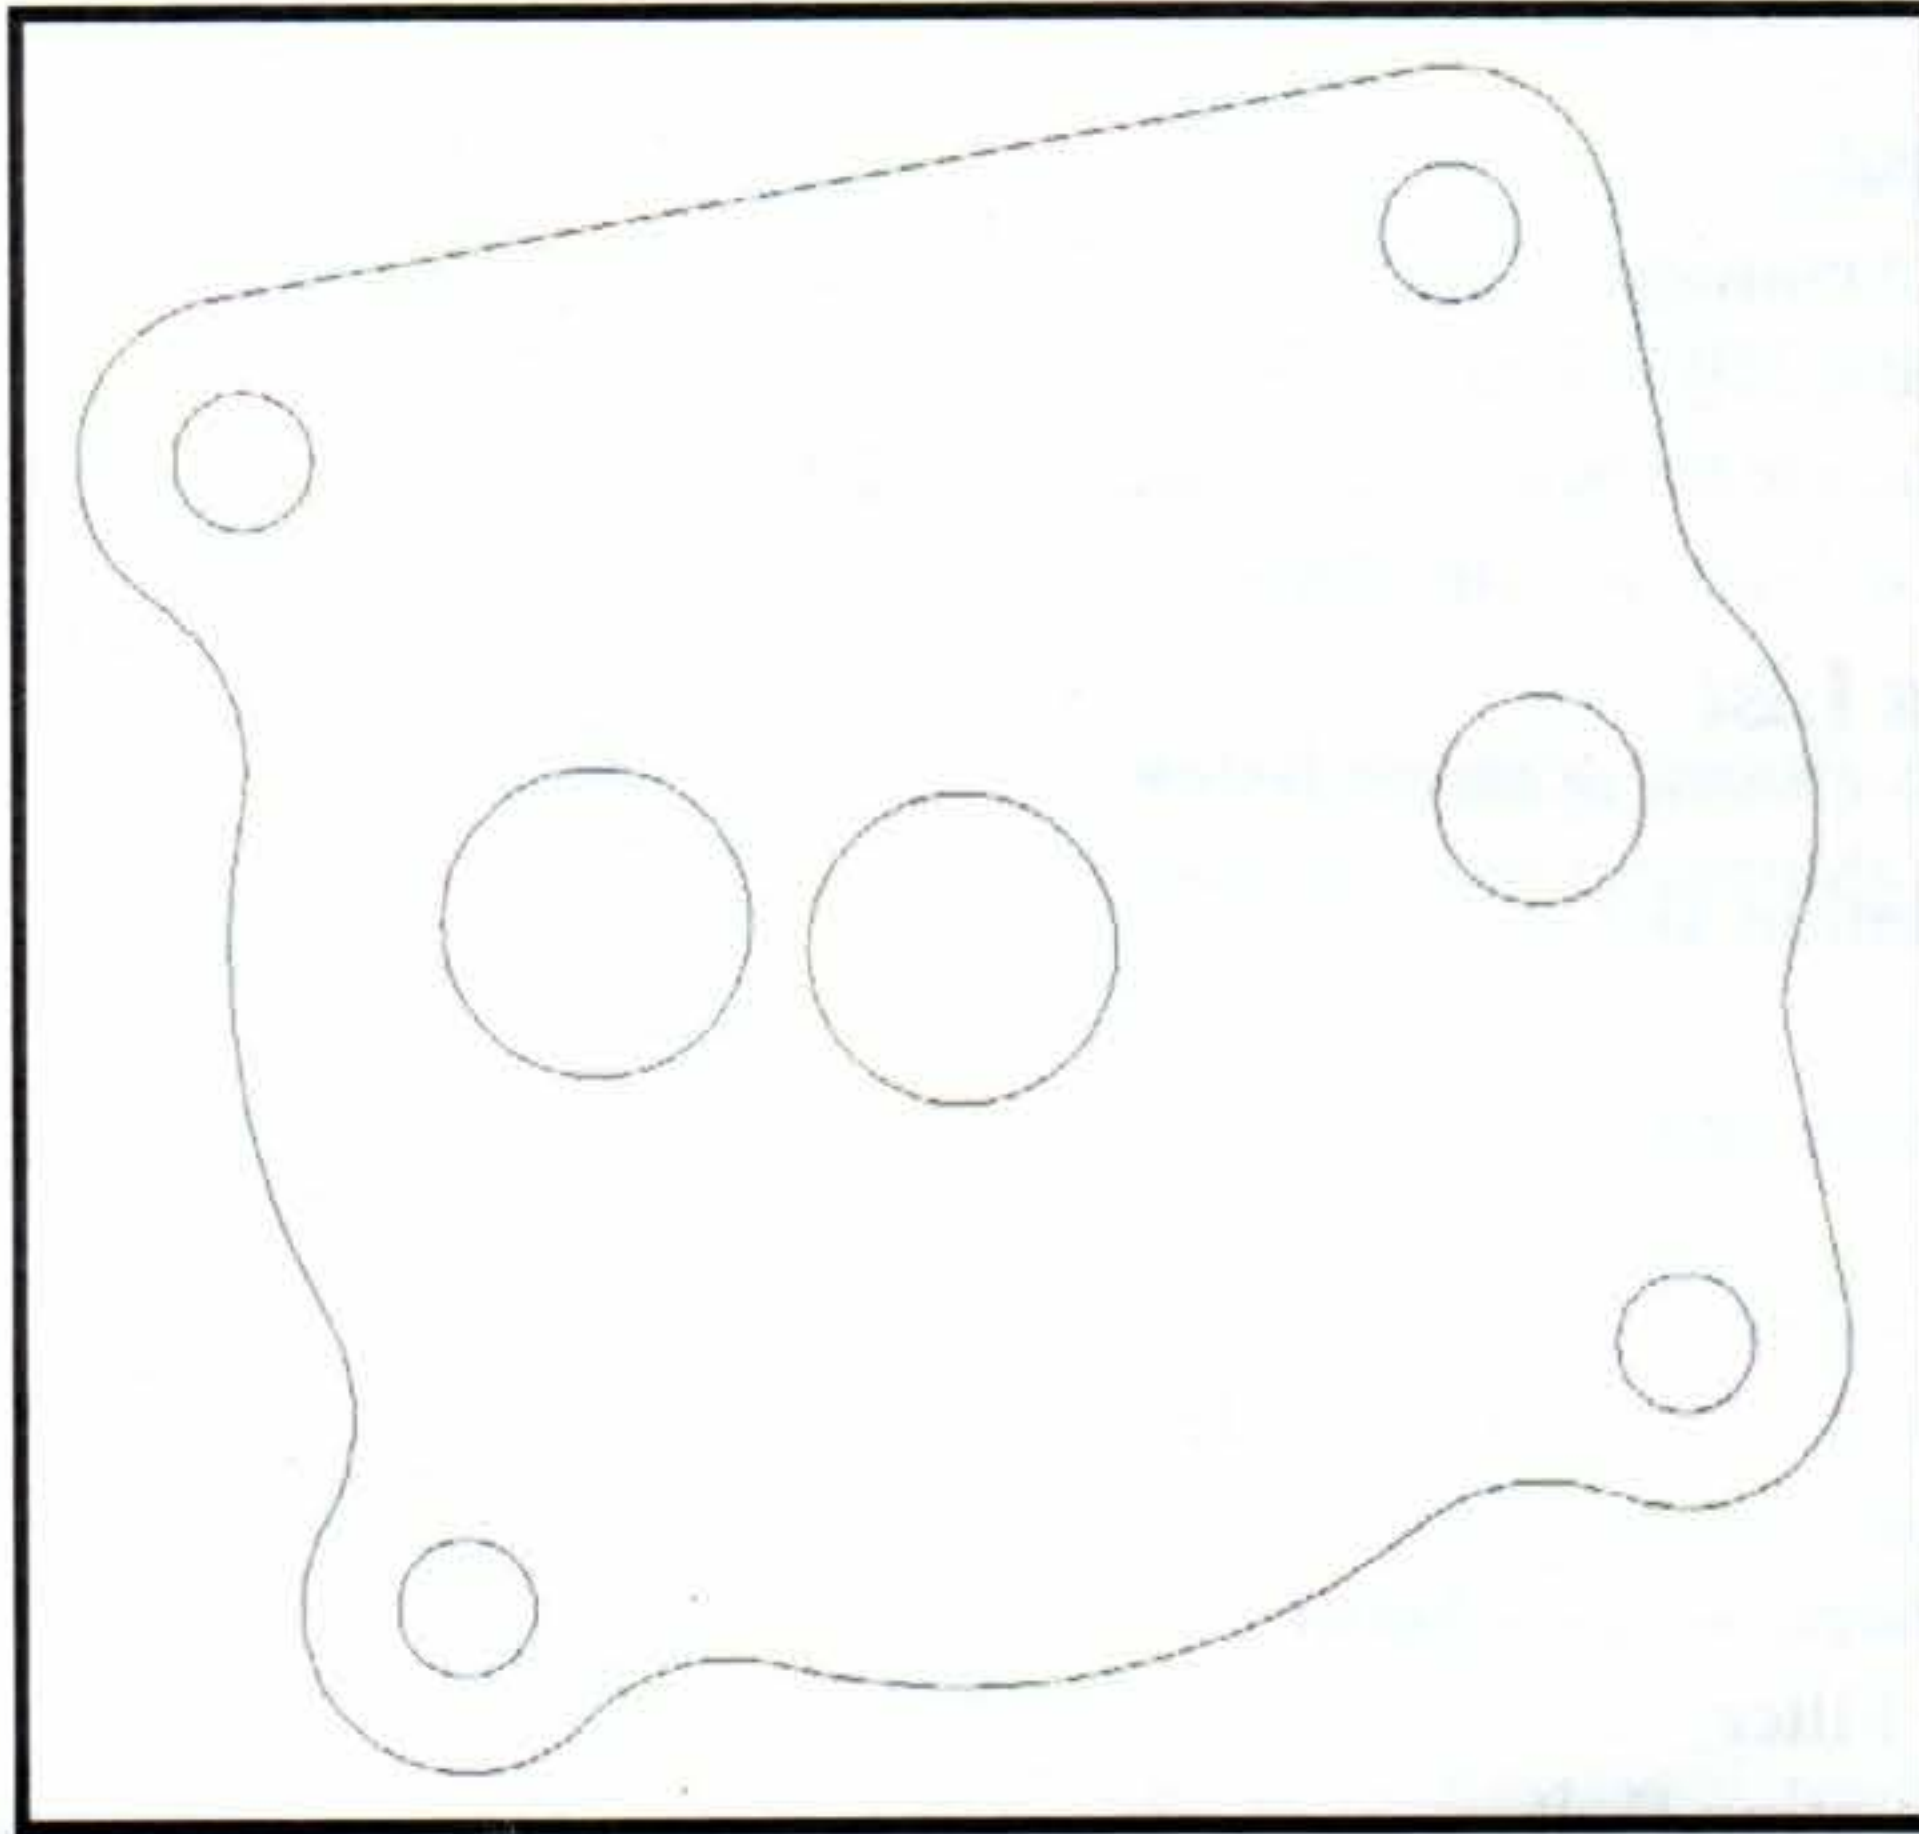
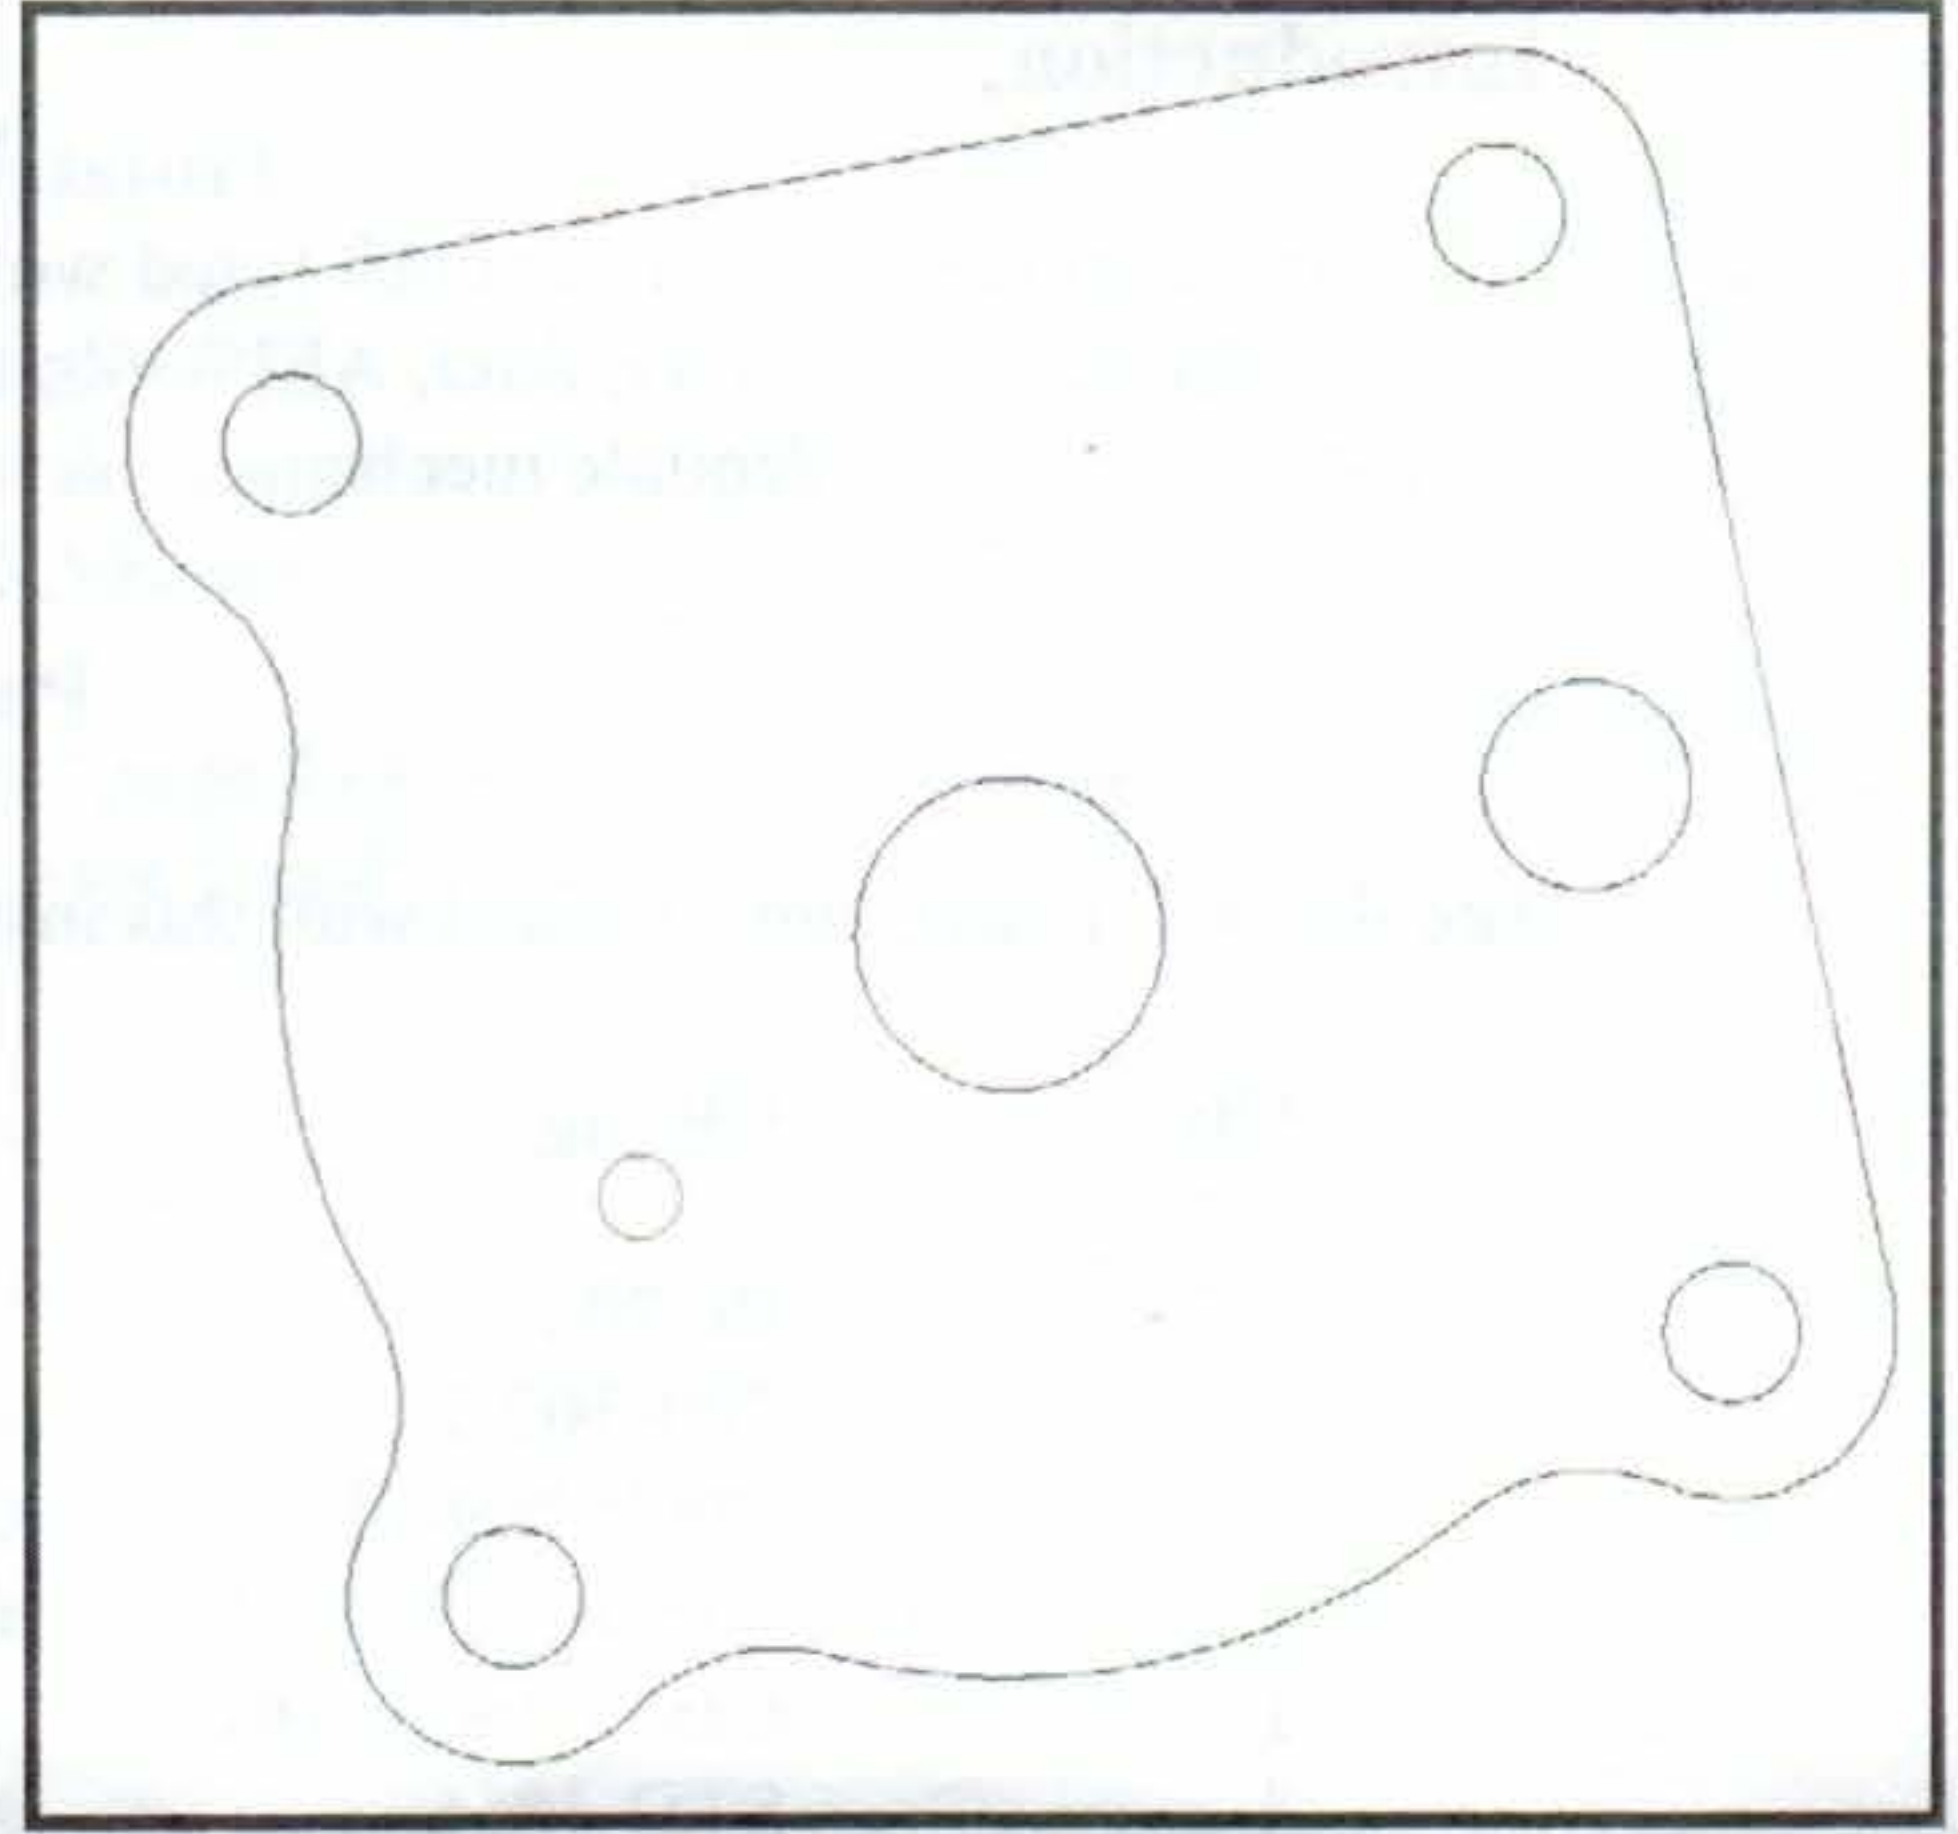
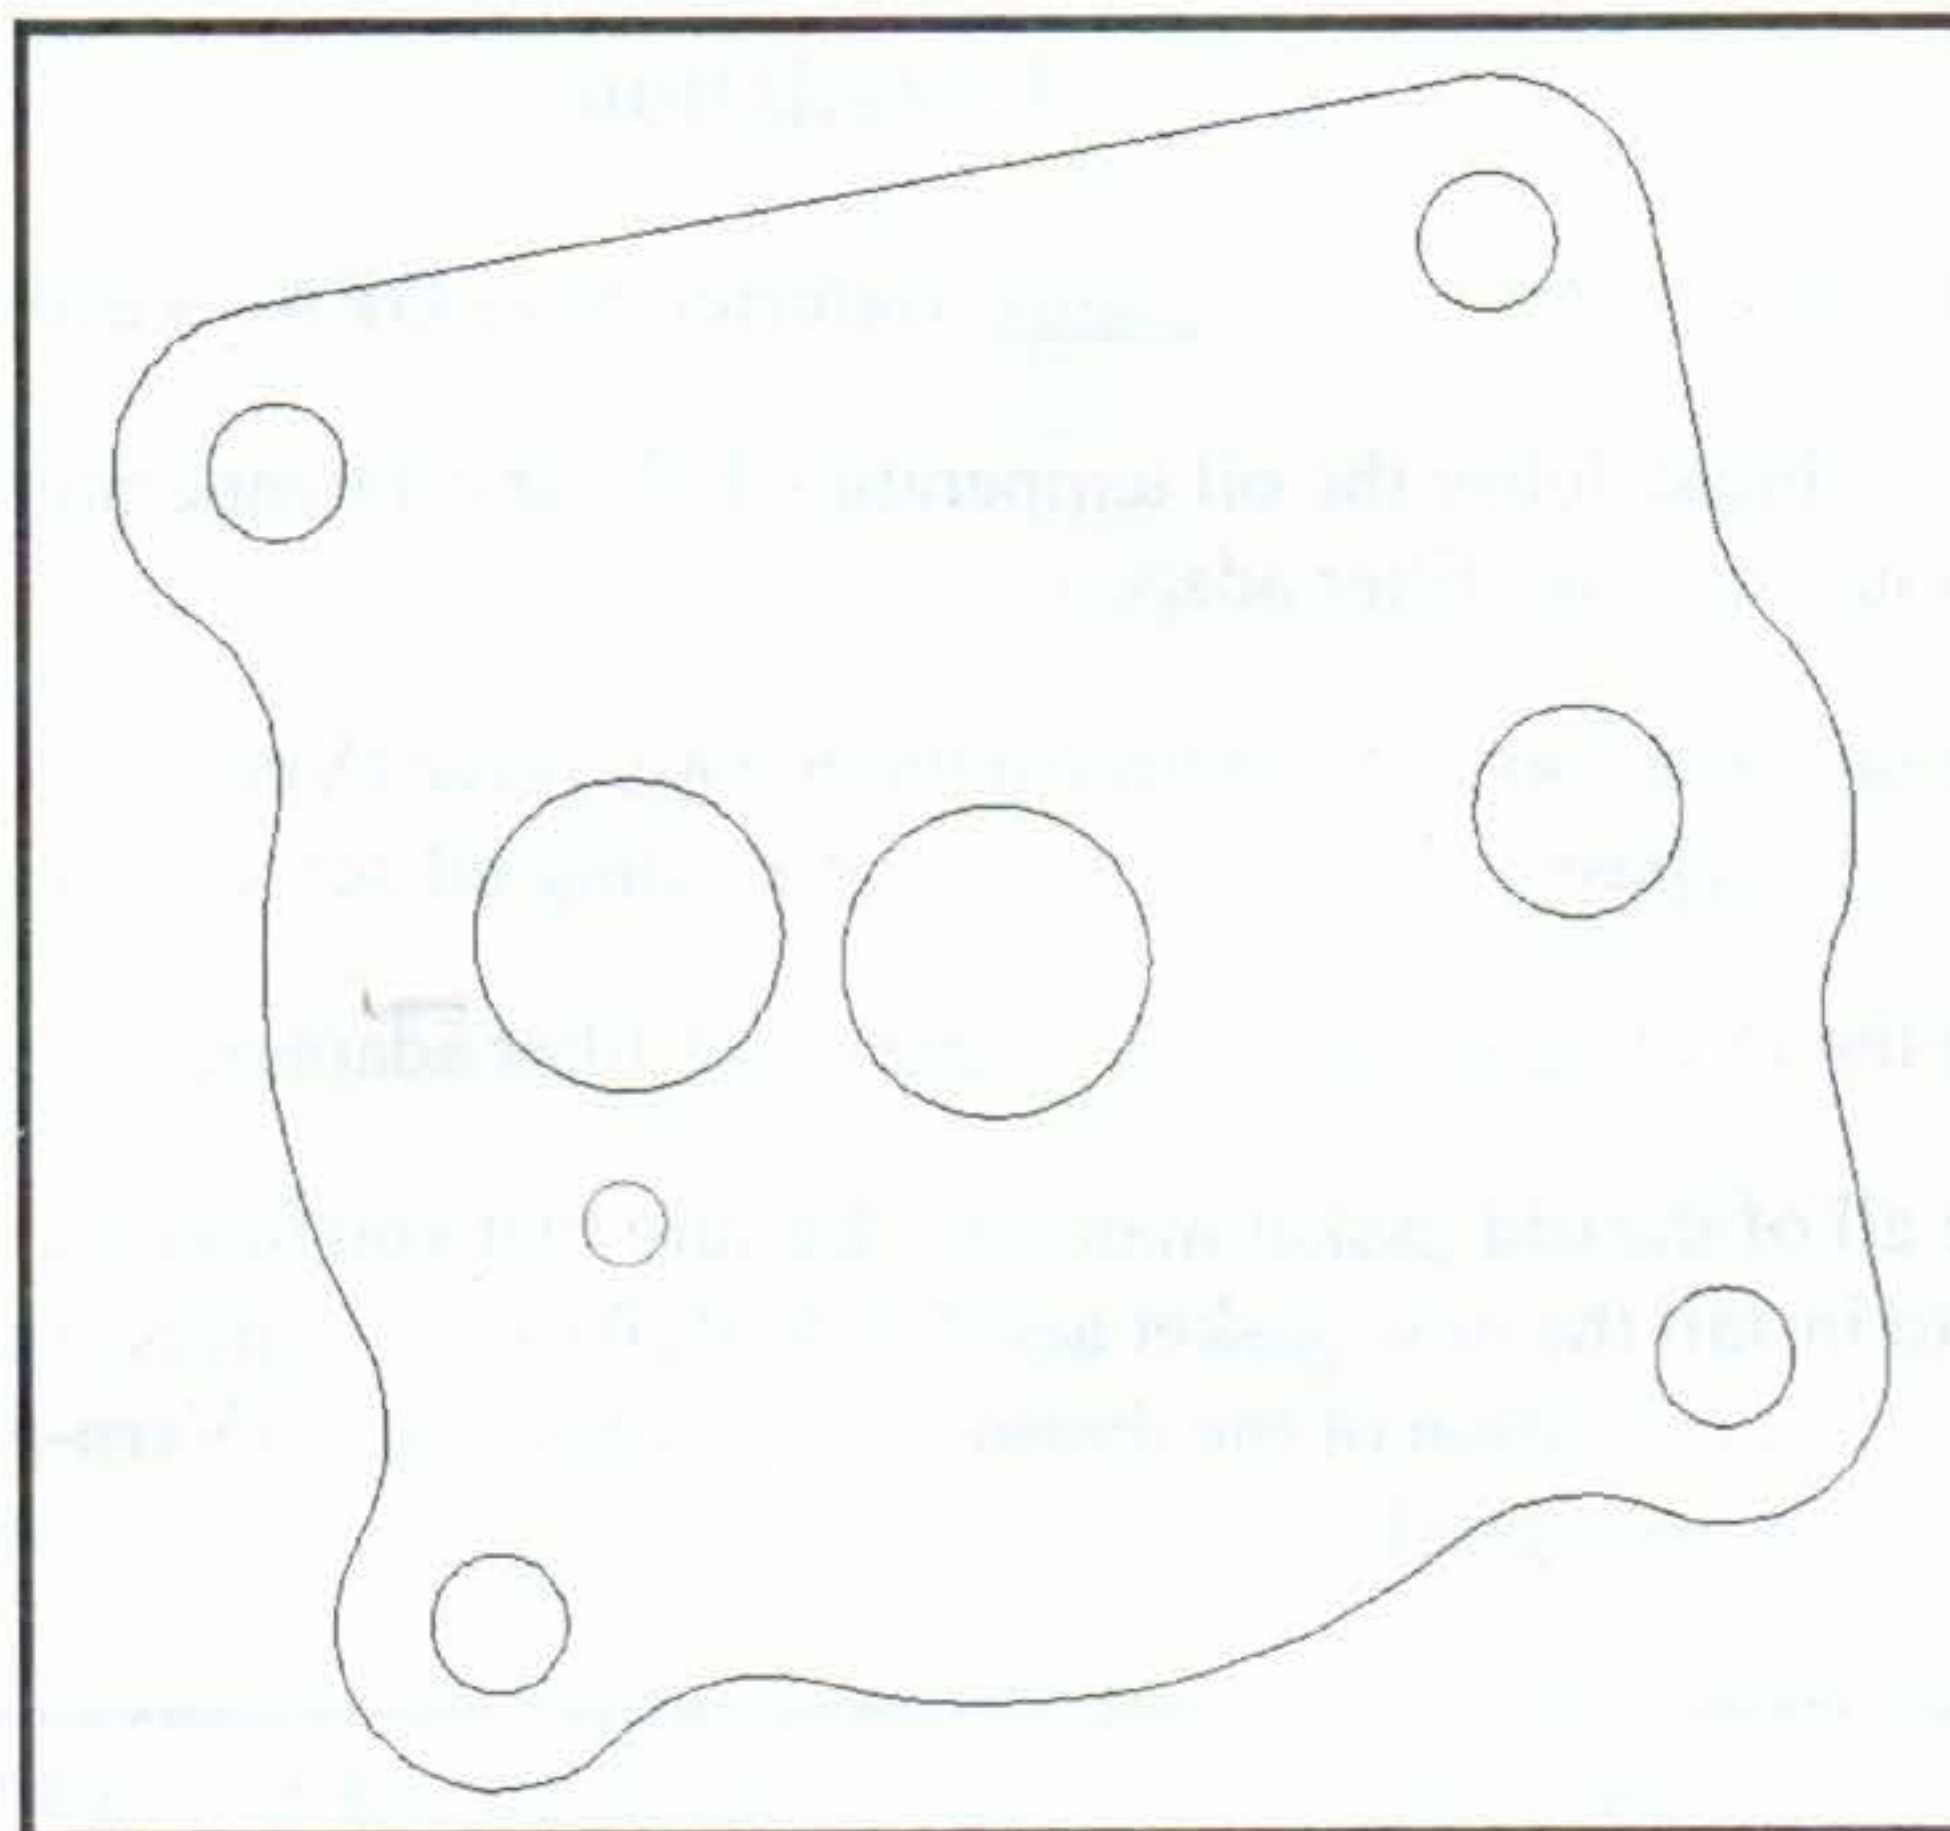

Figure 1
Figure 2
Figure 2A
5. The mounting pad on the accessory case for the **OFA** should be like the drawing in Figure 1, Figure 2, or Figure 2A. If the mounting pad is different, **DO NOT** use this adapter. Call B & C Specialty Products at (316) 283-8000. The B&C **OFA** is not compatible with 76 series engines or on accessory cases with "Dual Magneto" mounts (two magnetos in one case with a single drive).